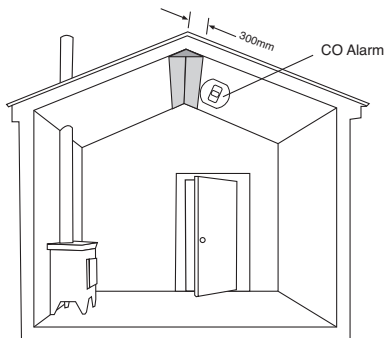

Figure 2
- In rooms with sloped ceilings, the CO alarm should be located at the high side of the room (see fig 2).